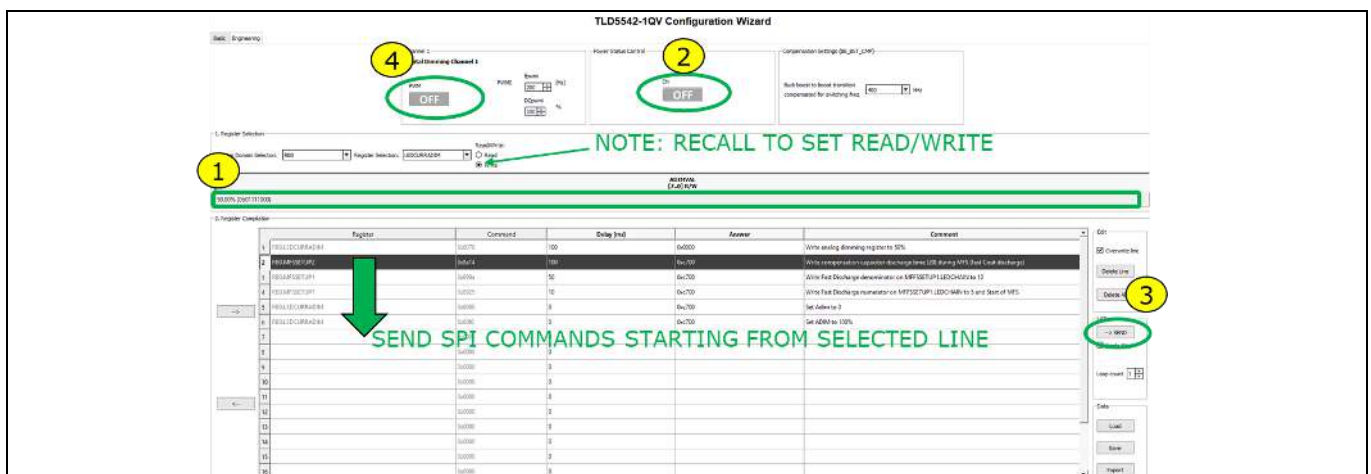

Figure 17 TLD5542-1 GUI – Engineering user interface
3. Press the SEND button to send commands on the list, starting from the black row in the list Figure 17